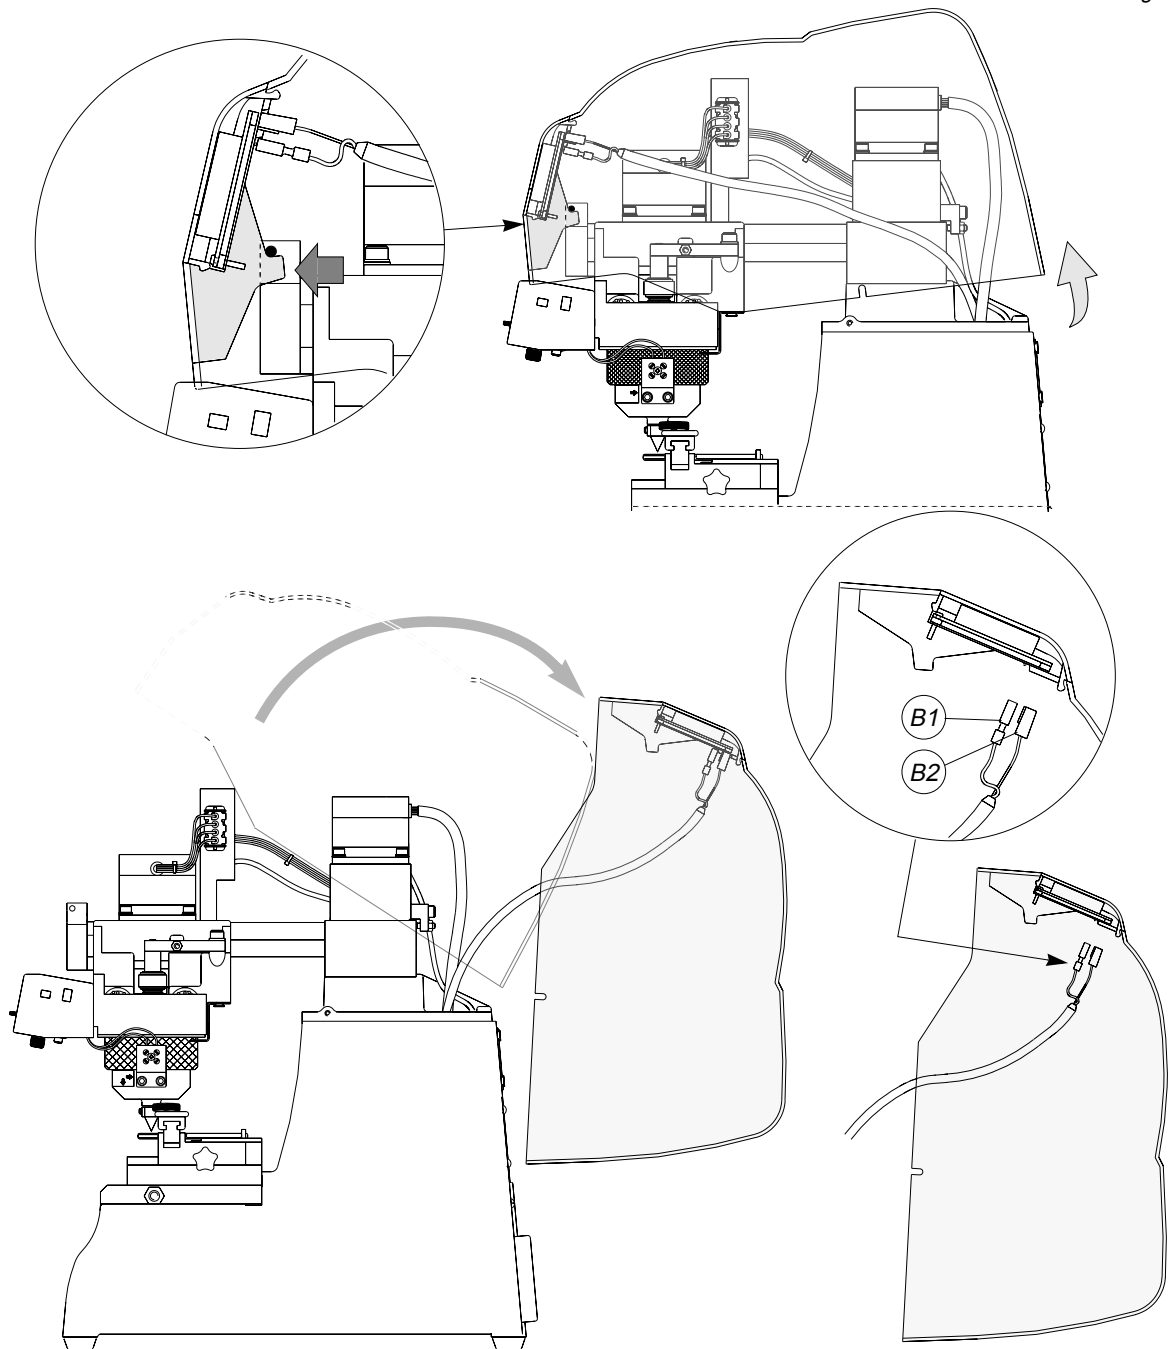

Fig. 33
- 3) slightly raise the rear of the cover and very carefully pull forward, releasing it from the front catches (fig. 33).